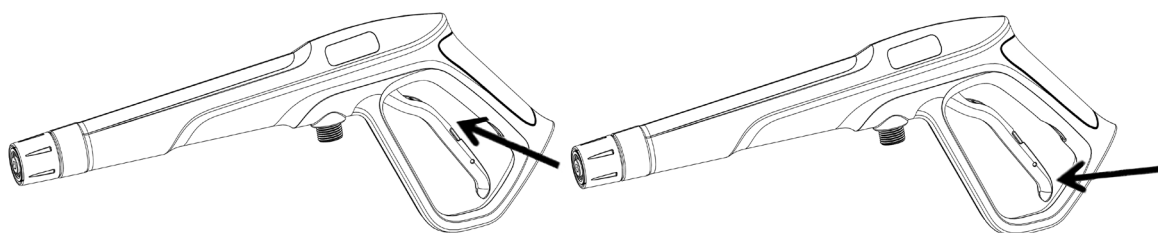

Figure 4&5: Trigger Lock
4. Push the trigger lock button, ensure the trigger in the "OFF" position. See figure 4 and 5.